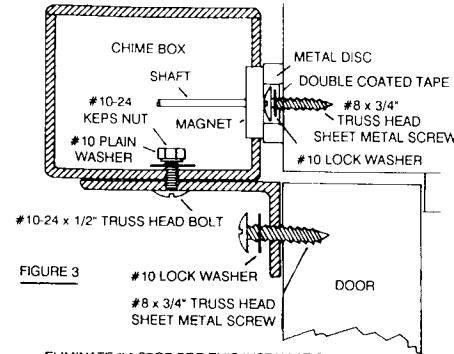

FIGURE 3
2. Place edge of bracket on mark and at same time, top of bracket must be flush with top of door. (See figure 3)
5. Using 2-#8 X 3/4 truss head sheet metal screws and 2 lock washers, secure bracket to door, aligning top edge of bracket with top edge of door. (See figure 3)
7. Place chime box on top of bracket with magnet cup and metal disc facing door frame header. (See figure 3)
8. Align slots in chime box with slots in bracket. Secure together with 2-#10-24 truss head bolts, 2 plain washers and 2 keps nuts. (See figure 3)
12. Drill center of hole in metal disc and secure with 1-#8 X 3/4 truss head sheet metal screw and lock washer. (See figure 3)